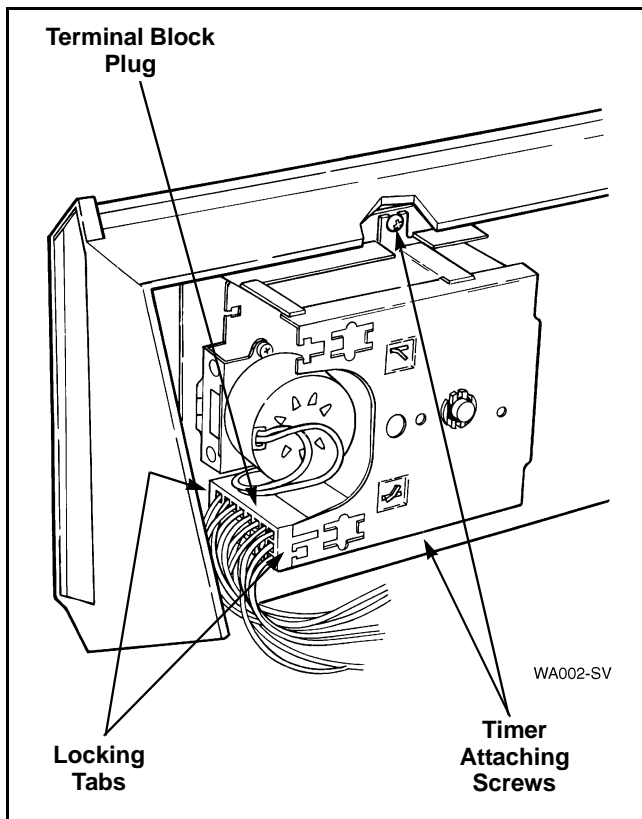

Figure 9
- Remove two screws holding timer to control hood mounting plate. Refer to *Figure 9*.
- Disengage wire harness terminal block plug(s) from timer by pressing in on movable locking tabs (located on each side of terminal block plug) and pulling away from timer. Refer to *Figure 9*.